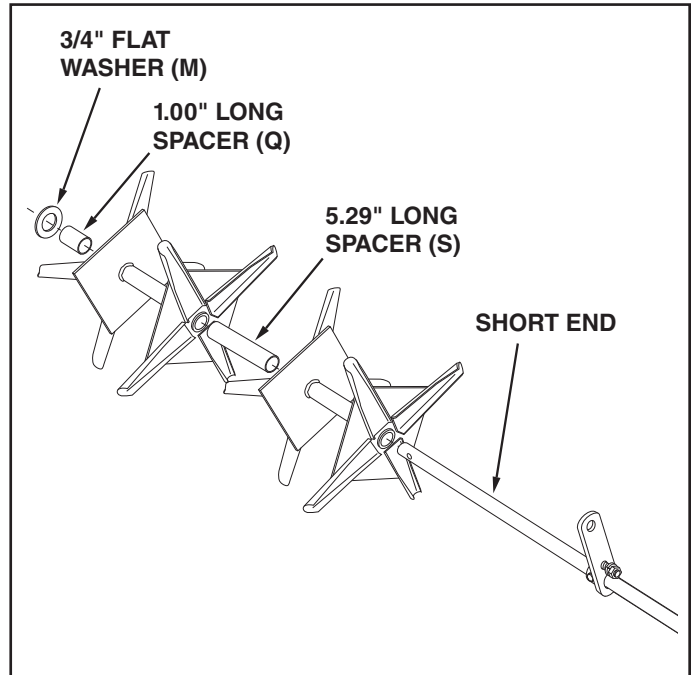

FIGURE 3
4. Assemble a spool assembly, a 5.29" long spacer (S), another spool assembly, a 1.00" long spacer (Q) and a 3/4" flat washer (M) onto the **short end** of the shaft. See figure 3.